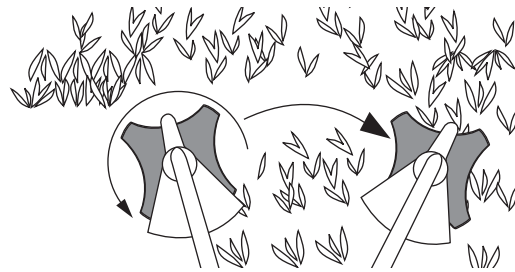

Fig. 22
- Swing the unit into material to be cut from your left to your right (Fig. 22)